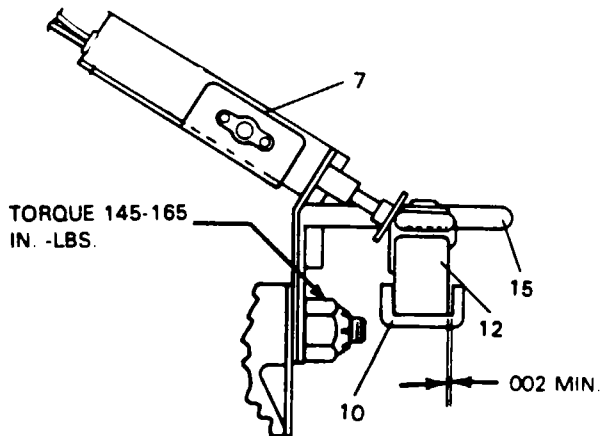

Figure 76-3. Low Pitch Stop Switch Adjustment
1. Check the feedback ring for run out and carbon block clearance. (Refer to Figure 76-3.)
LOW PITCH STOP SWITCH ADJUSTMENT. (Refer to Figure 76-3.)